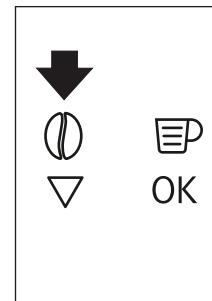

Fig. 15
- ▶ The appliance is preset to make coffee with a normal taste. You can also choose coffee with an extramild, mild, standard, strong or extra-strong taste. There is also a pre-ground coffee option. To choose the required taste, press more times the icon \odot (B4) (Fig. 15). The required coffee taste is displayed.